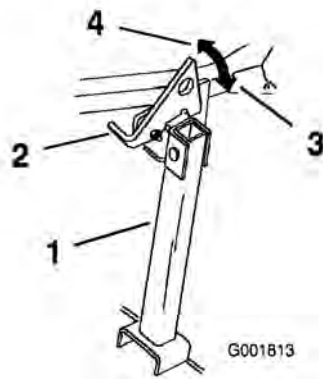

Figure 31
2. Raise the latch to the unlocked position (Figure 31).